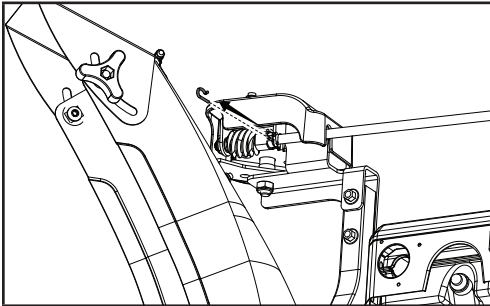

Figure 36
2. Pull out the R pin (Fig. 36).